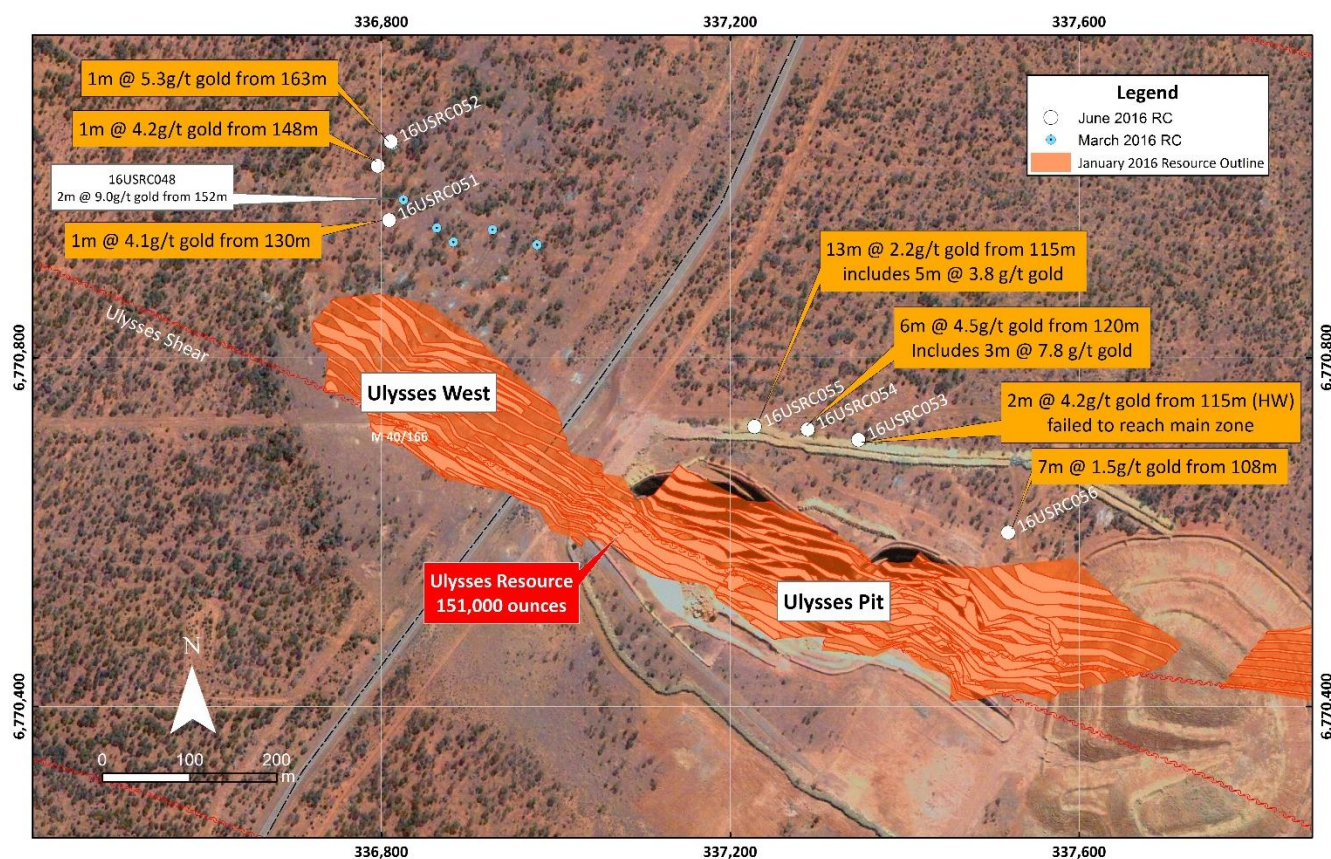

Figure 2 Ulysses RC Drilling June 2016
The recent reverse circulation (RC) drilling program comprised 7 holes (1,041m) (see Figure 2) which continued to target the depth extensions along the Ulysses resource particularly the positions of potentially north plunging high-grade gold shoots which are interpreted to result from the intersection of the WNW-trending Ulysses shear zone where it cuts across favourable lithologies in the (locally) NW-trending mafic sequence.